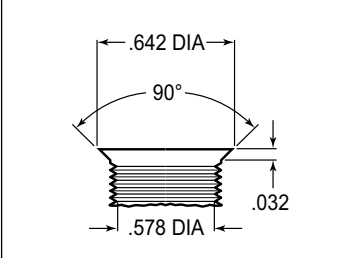

Figure 3. Drill and Tap Detail
NOTE: Some spindles in this year range may require the following modifications (reference Figure 1 and Figure 3): Top anchor pin hole (Z) must be drilled and tapped to the dimensions as outlined in Figure 3. The lower bolt hole (Y) in the spindle used to mount the new caliper bracket, and the mating steering arm hole, must be enlarged to .50" by drilling. It is recommended these modifications be performed by a qualified machinist.
•Install wheel studs (23) into the hub of the rotor (9), Photo 1. Apply red *Loctite*® 271 to the threads and torque to 77 ft-lbs. **NOTE:** There are two five lug patterns in the hub (5 x 4.50 and 5 x 4.75). Ensure the correct hub stud pattern is being used to fit the wheel application.
•Pack the large inner bearing cone (7) with high temperature disc brake bearing grease (available from your local auto parts store) and install into the backside of the hub (9), Photo 2.
•Install the grease seal (8) by pressing into the backside of the hub (9), flush with the end of the hub.